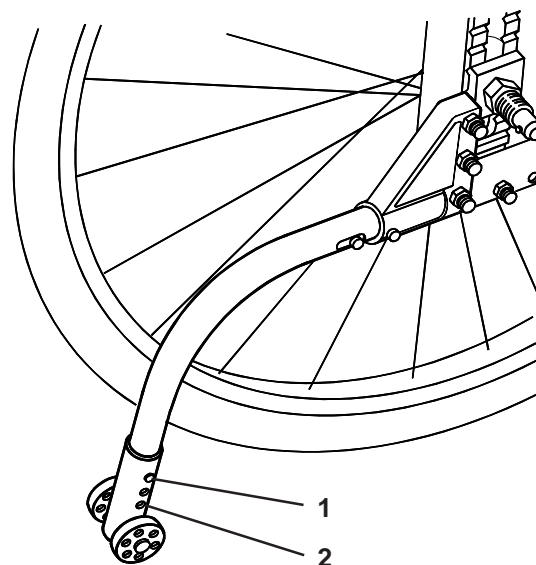

Fig. 32
To adjust the height of the anti-tip tube (Fig. 32) press in the two locking pins (1) on the anti-tip wheel assembly and move the wheel assembly to the desired position. There are three sets of holes (2) for adjustment. Ensure the locking pins are correctly locked into the required holes prior to using the wheelchair.